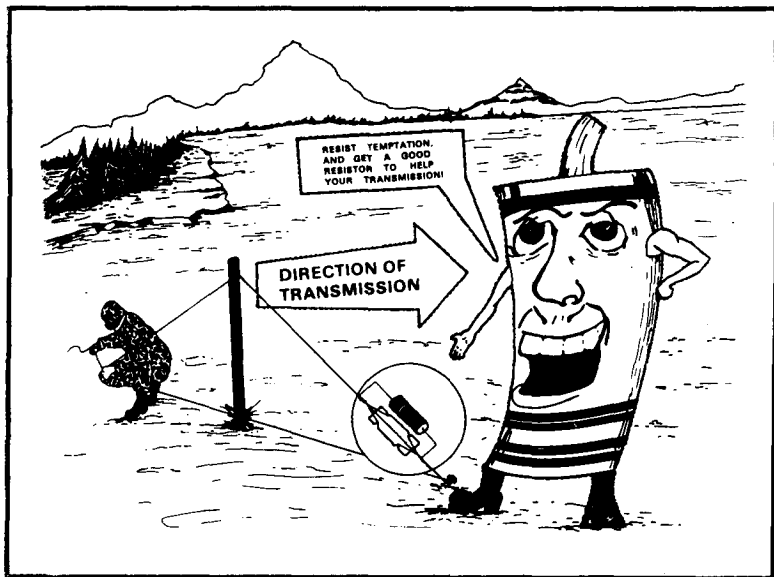

Figure 3-21. Proper resistor.
(1) When one or more wires on an antenna are broken, the antenna can be repaired by reconnecting the broken wires. To do this, lower the antenna to the ground, clean the surface of the wire, and twist the wires together. Whenever possible, solder the connections.
(2) If the antenna is damaged beyond repair, substitute another antenna. If antenna sections are not available, WD-1 (field wire) can be used as a substitute. Ensure the length of the wire is the same length as the original antenna and you have a good wire to antenna contact.
e. Building a good field-expedient vertical half-rhombic antenna calls for a good resistor, not a dead BA-30 battery or a C-rat can full of sand and oil. Plan ahead. If you can, lay in a supply of the 600-ohm 2-watt resistors. Since 600-ohms is not a standard resistor value, you have a choice. Get a 620-ohm, 2-watter with NSN 5905-00-407-6167, or wire 2 1200-ohm, 1-watt resistors in parallel. Get them with NSN 5905-00-369-6916. Then, follow the directions on how to fabricate antennas. Put the resistor on the end nearest your receiving station. Remember, resistor wattage must beat least half of the radio's output wattage. (See Figure 3-21.)